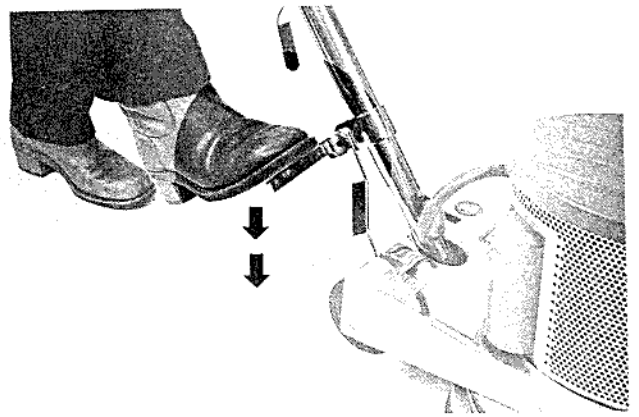

Figure 5
2. Lock the handle. To lock the handle, push the locking lever down. See figure 5.